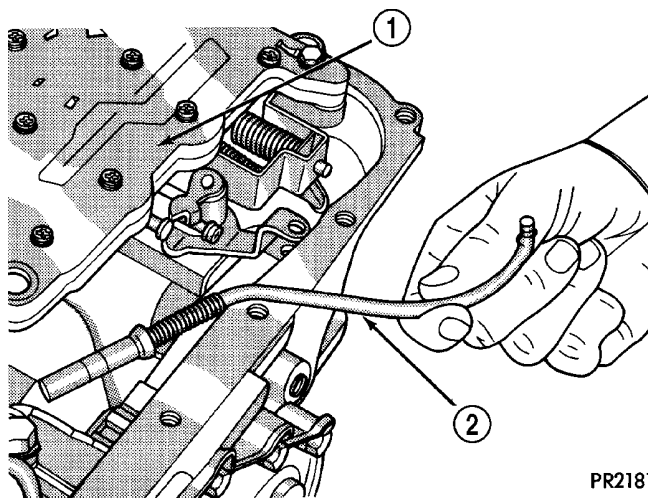

Fig. 7 Parking Rod
(8) Remove park rod from transaxle (Fig. 7).